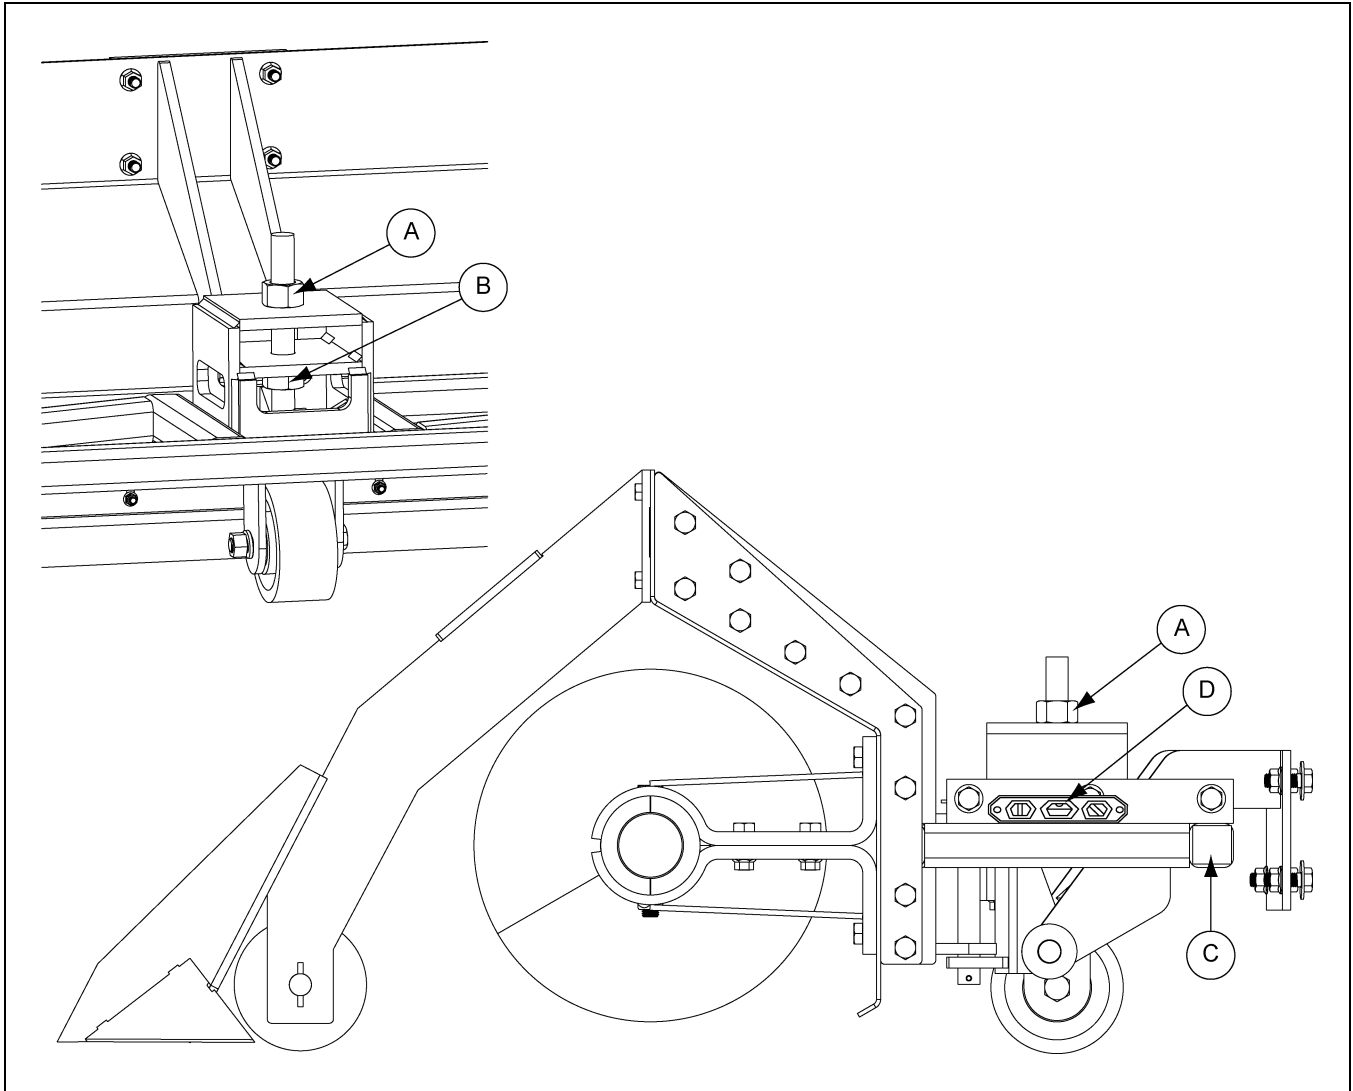

Figure 7AL
2. Set a level (D) on the sweep frame (C). (See Figure 7AL.)